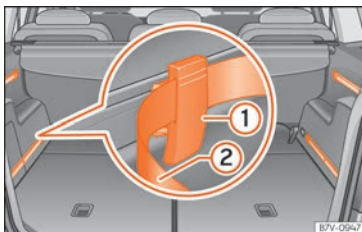

**Fig. 146** In the luggage compartment: system including rails, adjustable attachment elements ① and adjustable tightening straps ②.
- Fit the attachment element with the ruts facing upwards »» Fig. 146 ① to the upper part of the guide and press downwards.